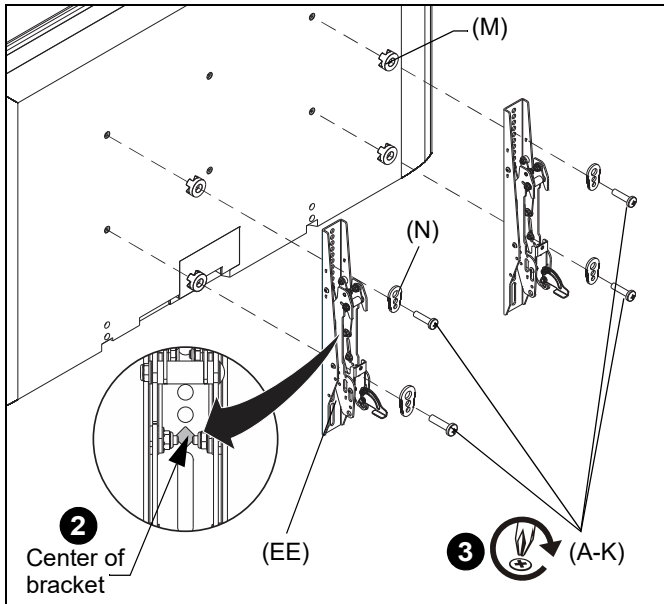
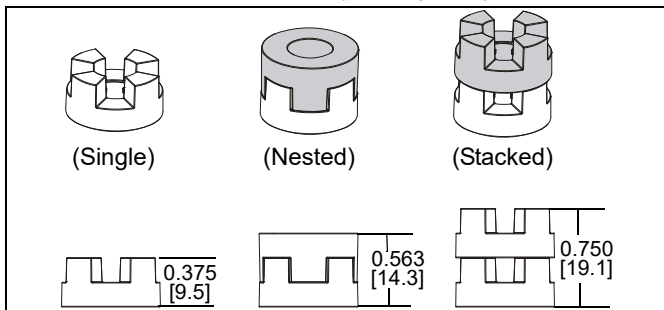

Figure 8
Figure 9
- Align the center of the interface bracket (EE) with center of screen. (See Figure 8)
- Select correct screws, nesting spacers (if necessary) and universal washers from the hardware bag (A-N) and attach brackets (EE) to back of screen. (See Figure 8)
**IMPORTANT ! :** The M8 screws do **NOT** require a washer. Use the universal washer (N) only with M4, M5 and M6 screws.
**NOTE:** The nesting spacers (M) may be used separately, or put two together in different configurations to create different size spacers. (See Figure 9)